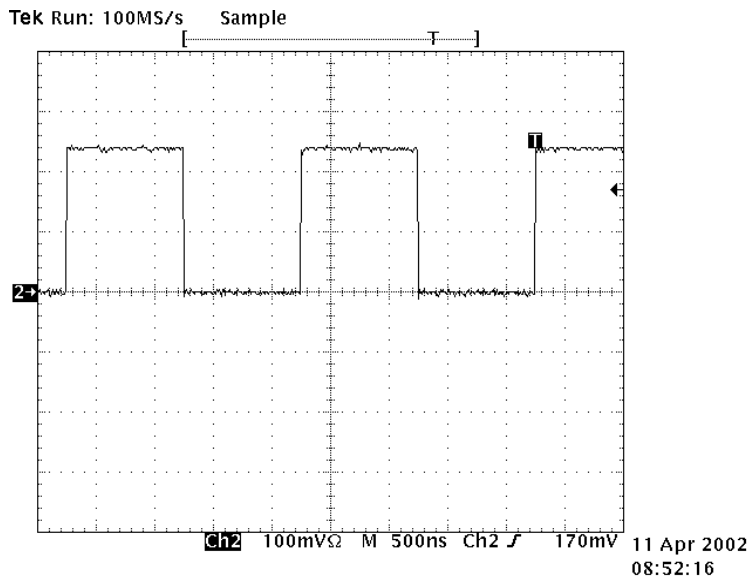

Figure 2 Transceiver Output Test Signal at J7
8. The trace on the oscilloscope should look as shown in Figure 2.